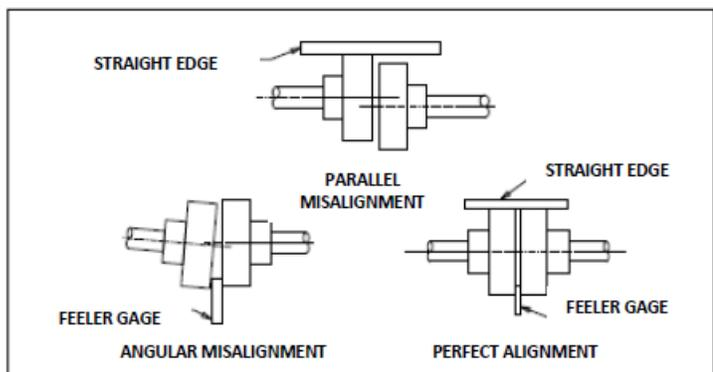

FIG. 1 TESTING ALIGNMENT, STRAIGHTEDGE
2. Check for parallel misalignment by placing a straight edge across both coupling halves at four points 90° apart. Correct alignment occurs when the straight edge is level across the coupling halves at all points (Figure 1).